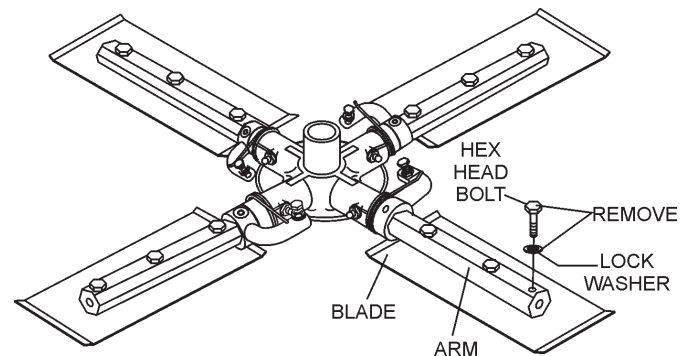

Figure 34. Trowel Blades
1. Remove the trowel blades from the trowel arm by removing the three hex head bolts (Figure 34) from the trowel arm. Set the blades aside.